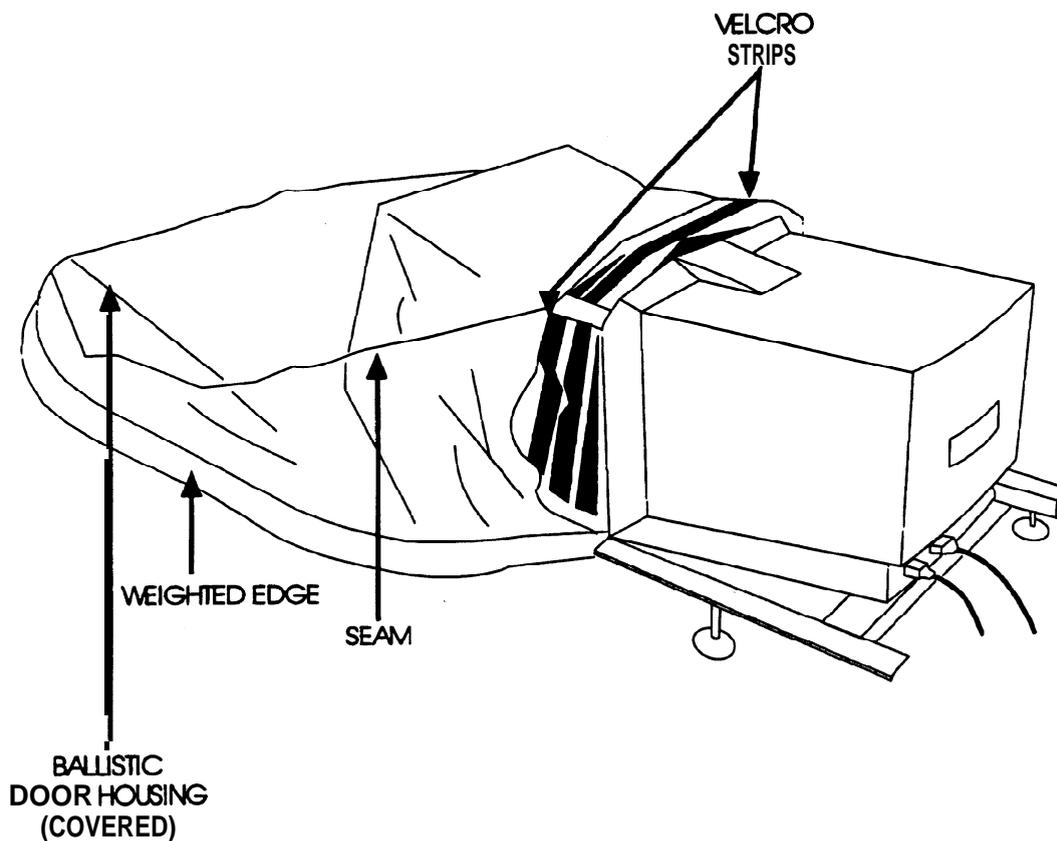

Figure 2-75. GPS Monitor Light Shroud
2.4.10.1 GPS Monitor Light Shroud Installation. Install the GPS monitor light shroud, shown in Figure 2-75, as follows.